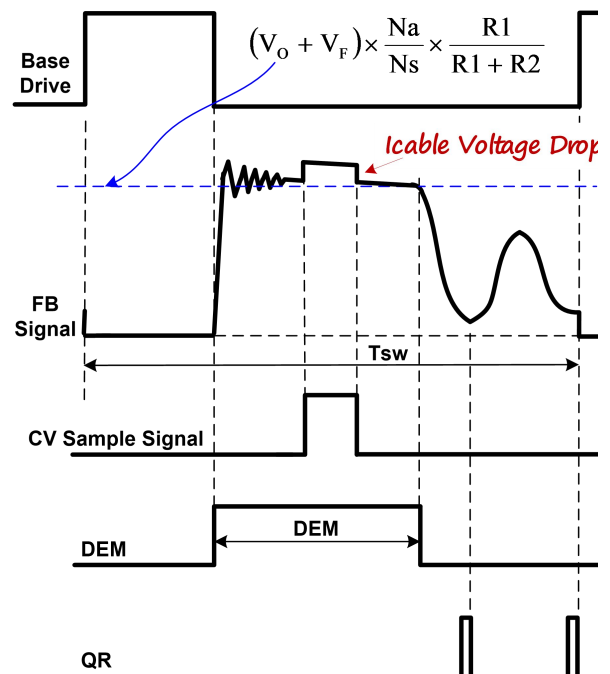

Fig.2
In Primary Side Regulation (PSR) control, the output voltage is sensed on the auxiliary winding during the transfer of transformer energy to the secondary. Fig.2 illustrates the timing waveform of CV sampling signal, demagnetization signal (DEM) and quasi-resonant (QR) trigger signal in DP2525G. When the CV sampling process is over, the internal sample/hold (S&H) circuit captures the error signal and amplifies it through the internal Error Amplifier (EA). The output of EA is sent to the Quasi Resonant PSR CV Modulator (QR-CVM) for CV regulation. A valley is selected to trigger new PWM cycle by the output of the QR-CVM block, which is determined by the load. The internal reference voltage for EA is trimmed to 2V with high accuracy.
During the CV sampling process, an internal variable current source is flowing to FB pin for Cable Drop Compensation (CDC). Thus, there is a step at FB pin in the transformer demagnetization process, as shown in Fig.2. Fig.2 also illustrates the equation for “demagnetization plateau”, where Vo and VF is the output voltage and diode forward voltage; R1 and R2 is the resistor divider connected from the